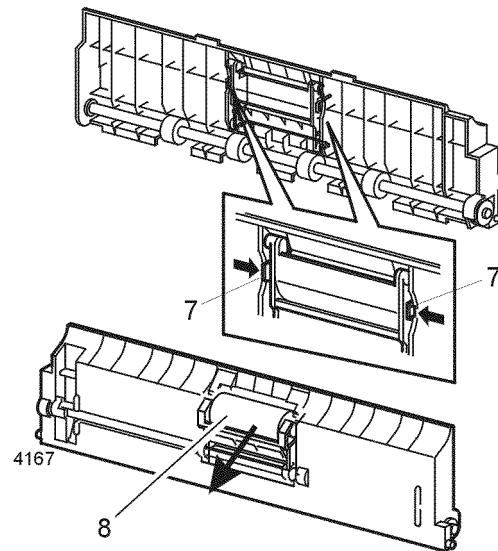

Figure 1 Retard Holder Assembly
7. From the back of the Retard Chute Assembly, release the two locking tabs (Figure 1).
8. Remove the Retard Roll from the front of the chute (Figure 1).